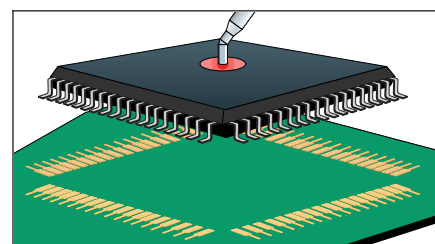

Figure 2 Position Component
4. Position component onto lands using a vacuum pick up tool or tweezers. (See Figure 2.)